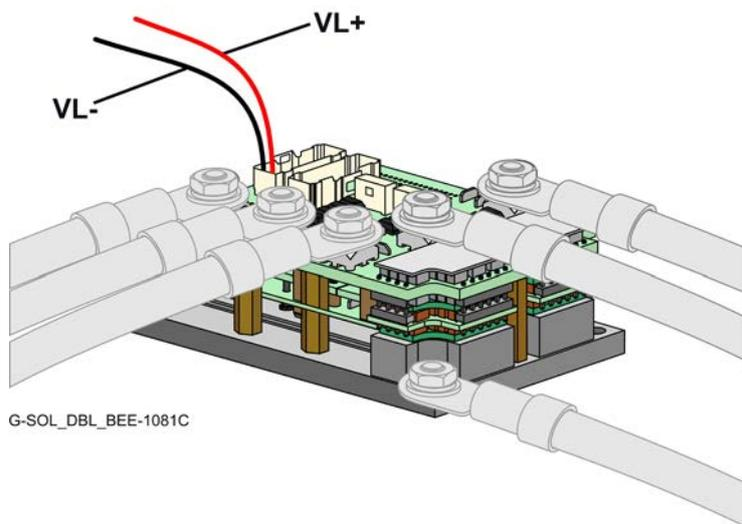

Figure 11: Connecting the Control Supply Wires
3. Connect the VL+ and VL- wires to the terminals on the servo-drive as shown in Figure 11.